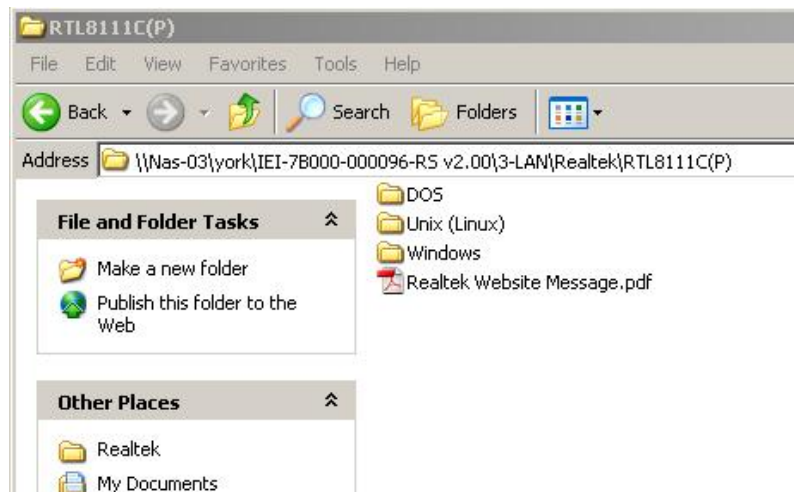

Figure 6-18: Location Browsing Window
Step 8: Select the proper OS folder under the **“X:\XX”** directory (Figure 6-18) in the location browsing window, where **“X:”** is the system CD drive and **“XX”** is the folder name.